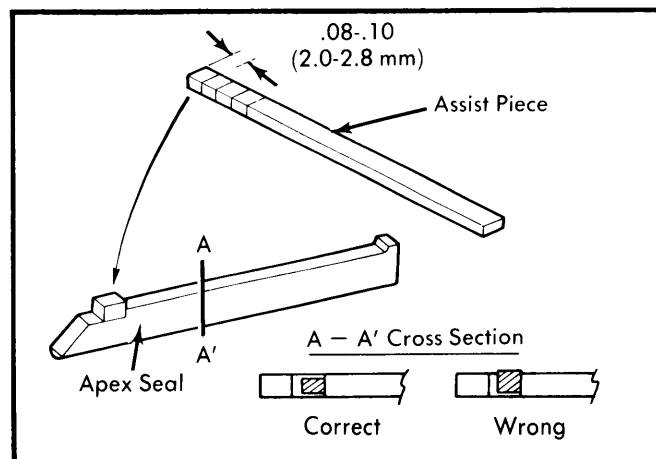

Fig. 19 Installing Assist Piece on Apex Seal
**NOTE** – Before installing apex seal, cut the assist piece with a knife to a length of .08-.10" (2.0-2.8 mm). Peel off paper and install assist piece on apex seal, Fig. 19.